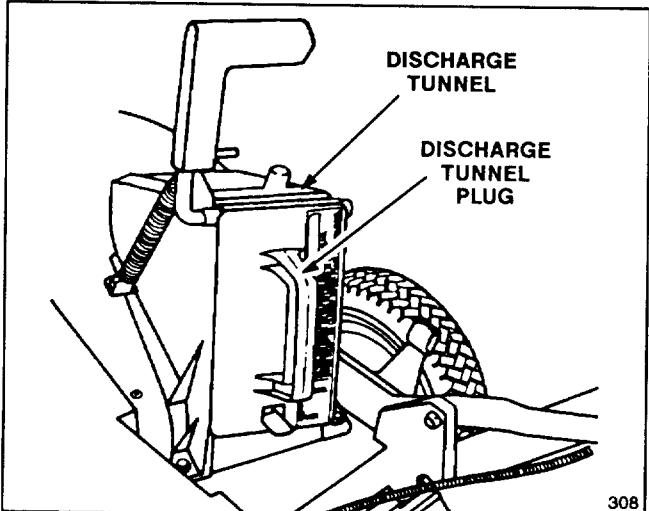

Figure 27
1. **Rear Bagging Kit, Model 59174**—Install discharge tunnel and rear mounting grass bag to convert Recycler® mower to a rear bagging mower (Fig. 27). Includes discharge tunnel plug.